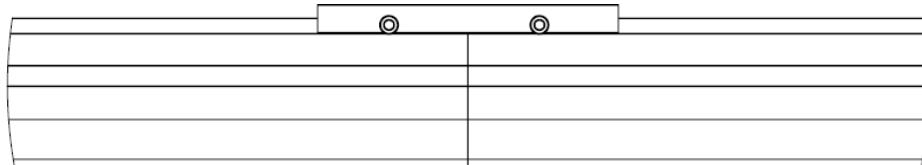

Figure 20: **Track Sections Butted Together With No Gap**
- Make sure there is no gap between the track sections (Figure 20).